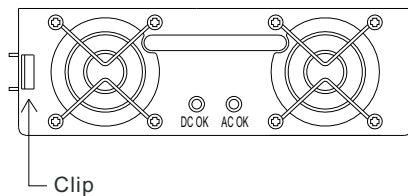

Figure 3-6: Location of the "clip" on RCP-1000 unit
- ⊙ Pull out the RCP-1000 unit: press the clip shown in Figure 3-6 and pull the unit out.